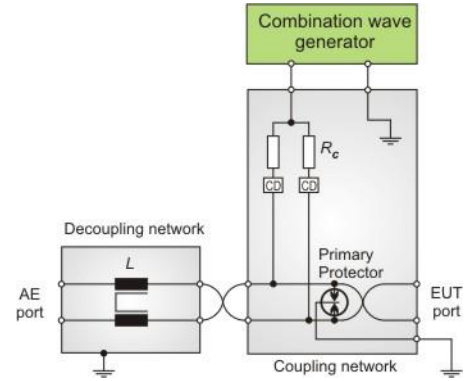

Figure A4 IEC 61000-4-5 Ed3.0
- IEC 61000-4-5 - Telecom surge 10/700µs, Figure A4 for unshielded outdoor symmetrical communication lines